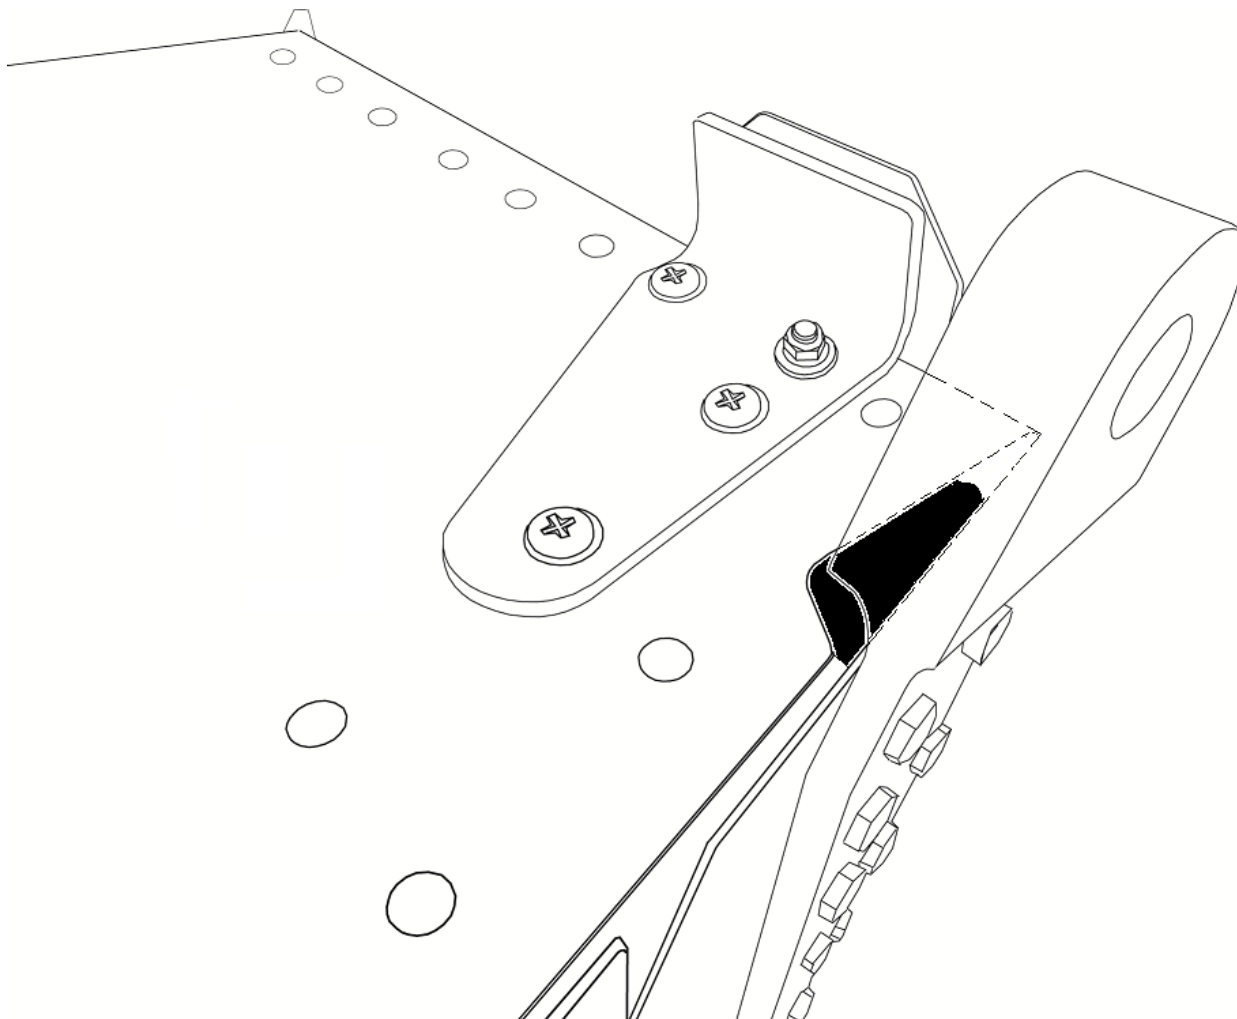

Figure 6 – Tailcone Skin Inspection Area
6. Do a detailed visual inspection, using at least 10x magnification and a strong light source, of the external bend radius of the LHS and RHS Tailcone Skins under the Horizontal Stabiliser Pivots as highlighted in Figure 6.